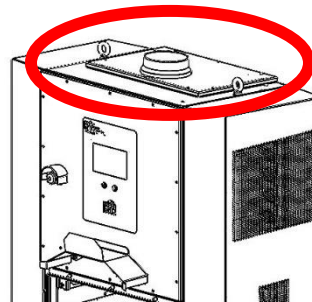

Figure 10a – Eye bolts in shipping position
2. Use the 2 installed eye bolts (Figure 10a), straps, and other lift supports, such as a crane, jack, weight belt, lifting partners, and handholds to safely lift the charger.